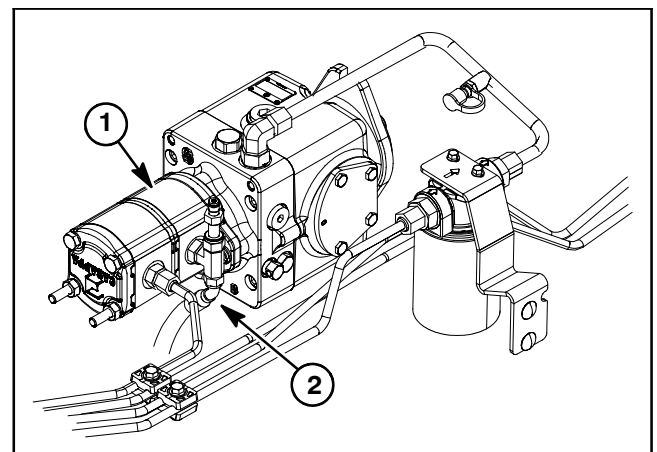

Figure 42
4. Thoroughly clean junction of hydraulic hose and tee fitting on left side of 1st gear pump section (Fig. 42). Disconnect hose from left side pump fitting.